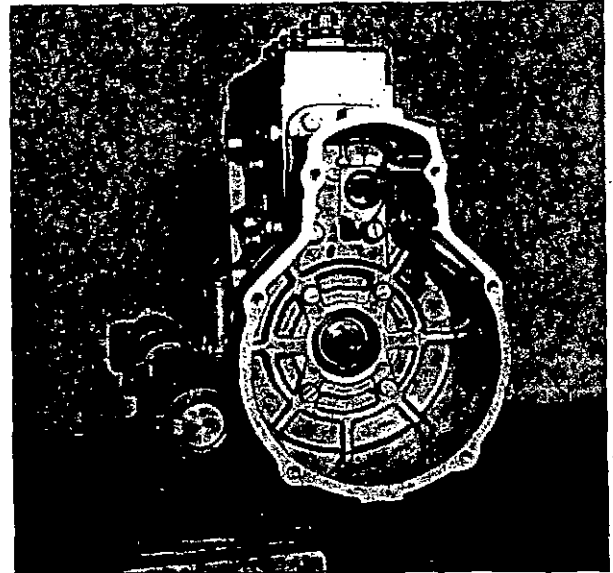

Fig. 6 Pump on swivel vice
3. Mount the pump on a suitable rig, such as the swivel vice 0-681 240-048 shown in fig. 6. Remove the rear cover and dismantle the governor as described under 'DISMANTLING' in Part 3.